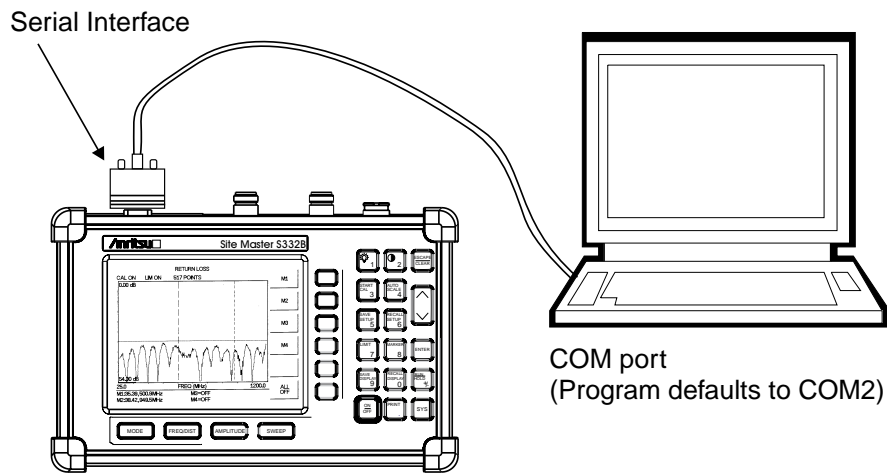

Figure 5-2. Serial Cable Connection
Step 1. Connect the supplied cable as shown in Figure 5-2.